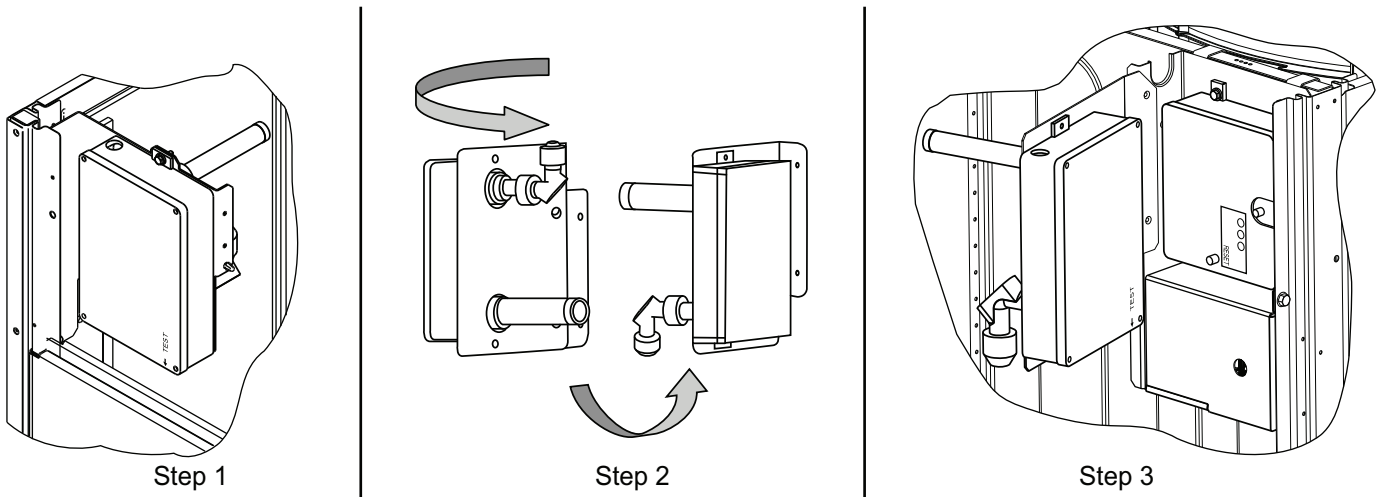

Fig. 71 — Completing Installation of Return Air Smoke Sensor
1. Unscrew the two screws holding the return-air smoke detector assembly. See Fig. 71, Step 1. Save the screws.
2. Turn the assembly 90 degrees and then rotate end to end. Make sure that the elbow fitting is pointing down. See Fig. 71, Step 2.
3. Screw the sensor and detector plate into its operating position using screws from Step 1. See Fig. 71, Step 3.